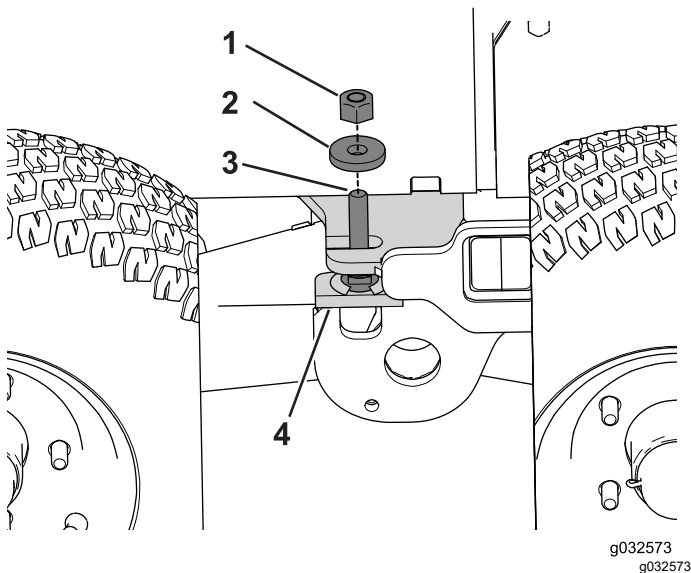

Figure 91
10. Install the locknut and washer to the threaded stud on the bogie-stop assembly (Figure 91).